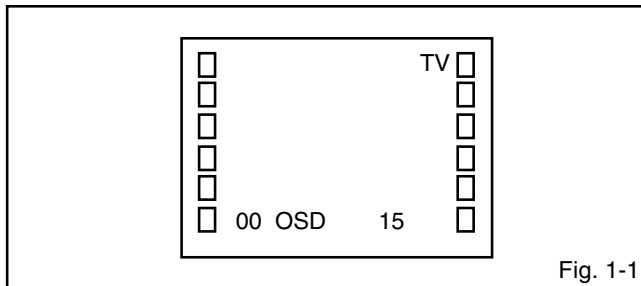

Fig. 1-1
Press the VOL. DOWN button on the set and the Channel button (9) on the remote control for more than 1 second to appear the adjustment mode on the screen as shown in Fig. 1-1.
4. Activate the adjustment mode display of **Fig. 1-1** and press the channel button (02) on the remote control to select "RF AGC".
3. Activate the adjustment mode display of **Fig. 1-1** and
4. press the channel button (01) on the remote control to select "CUT OFF".
4. Activate the adjustment mode display of **Fig. 1-1** and press the channel button (13) on the remote control to select "R. BIAS".
3. Activate the adjustment mode display of **Fig. 1-1** and press the channel button **(04)** on the remote control to select "H. POSI".